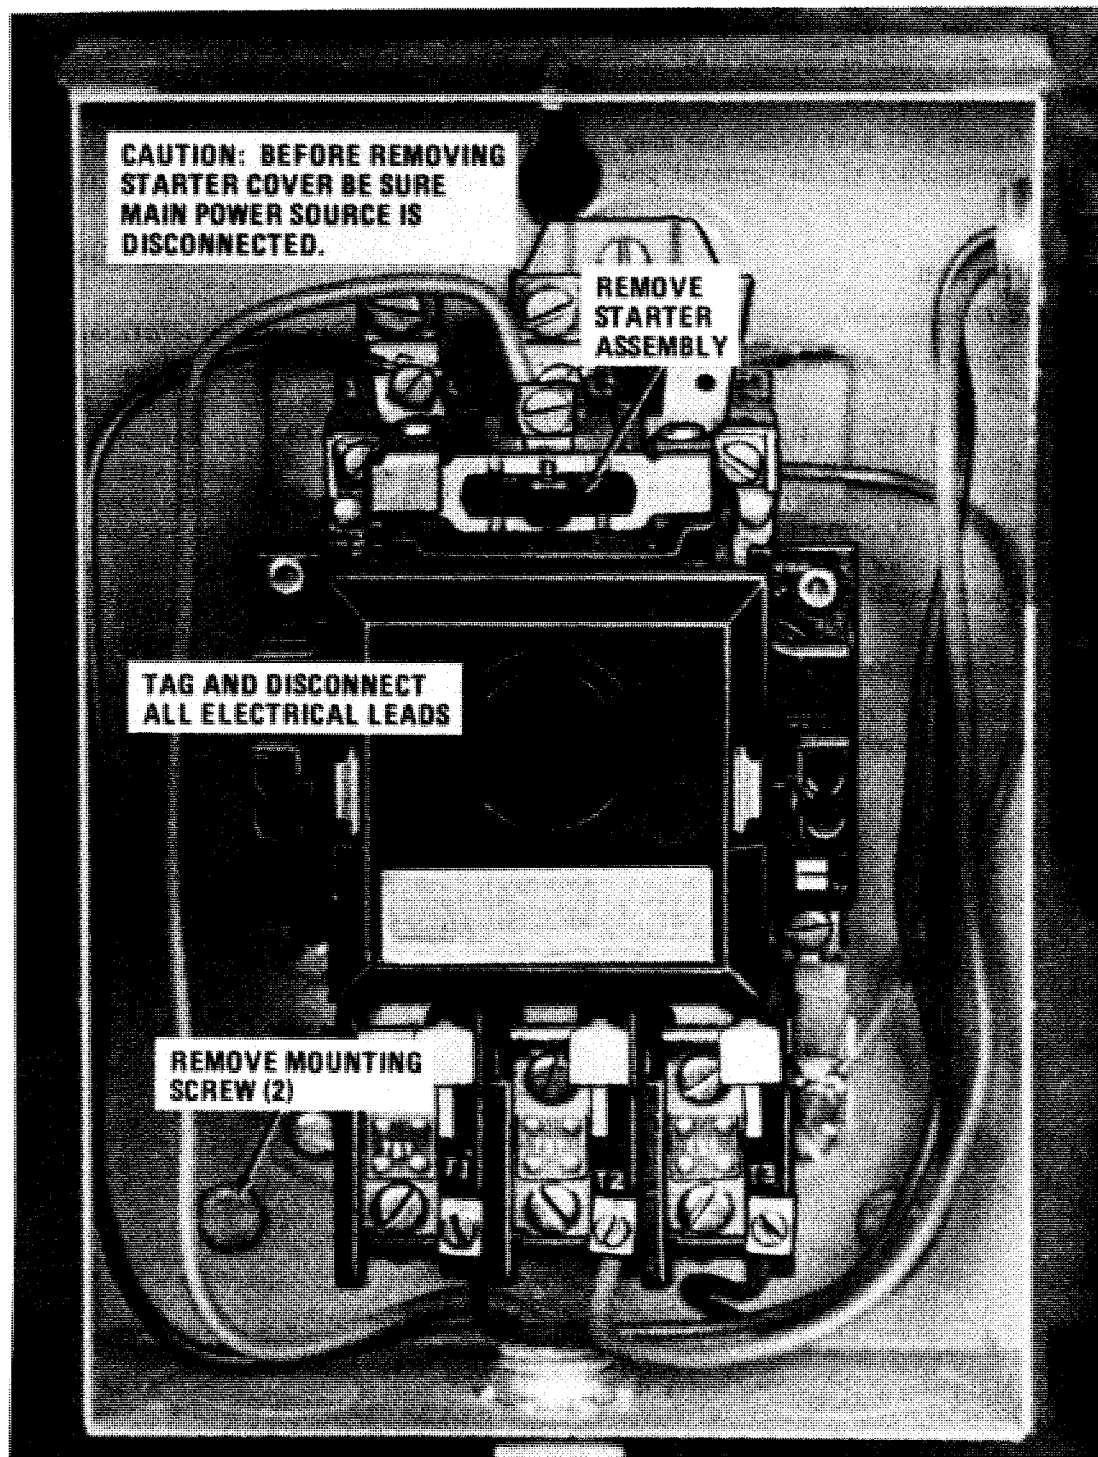

Figure 5-11. Magnetic starter, removal and installation (shown with cover removed).
(1) Refer to figure 5-11 and remove the magnetic starter as shown.
(2) Refer to figure 5-11 and install the magnetic starter in reverse order of the removal procedure.